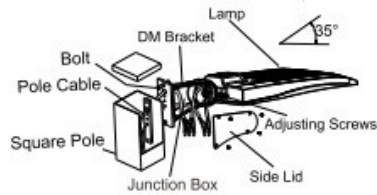

Figure 3
2. DIRECT MOUNTING (DM)
Step 1: Fix DM bracket to square pole with bolt, open the side lid of DM bracket, pull the wire into junction box, and connect the wire correctly. [Figure 3]
Notice: Adjustable angle is 0-35° [Figure 3].